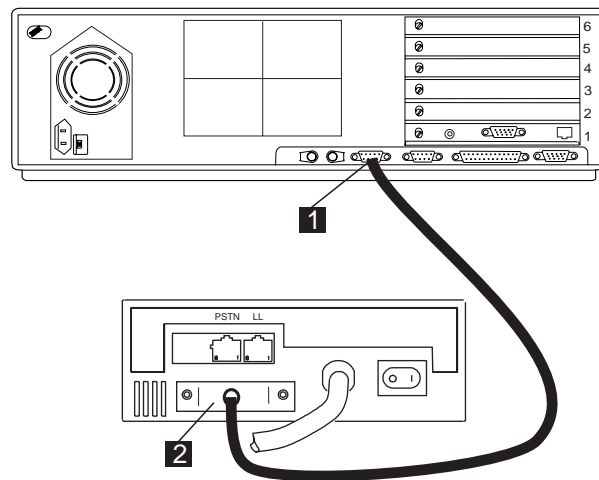

Figure 1-20. Connecting the 7855 modem to the NAS
32. ____ Install the modem on the rear side of the NAS, then refer to Figure 1-20, and plug cable PN 80G0597 to connector **1** of the NAS.